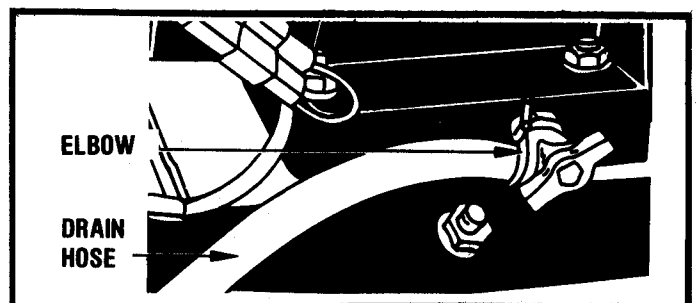

FIGURE 25
ENGINE, MODELS 924071 & 924056 – FIGURE 25
1. After installing handlebars, remove oil drain plug from the right hand side of engine base. Install reducer and elbow and tighten until elbow outlet is toward rear of machine. Install drain hose with clamp onto elbow. See Figure 25. Remove plastic cover on oil fill tube and discard.
2. Add oil according to engine manufacturer's instructions provided with the Sno-Thro. After filling crankcase, insert dipstick into the oil fill tube. See Figure 25. The dipstick is shipped with loose parts in the parts container.